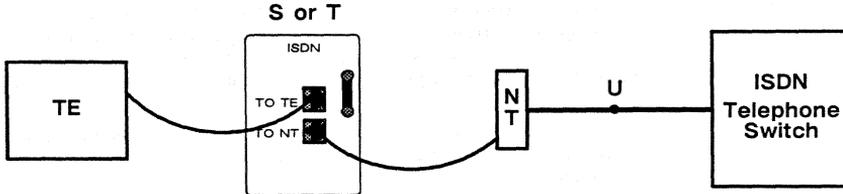

Figure 48-4 To monitor the line, connect both interfaces, **TO TE** and **TO NT**, to the line at the S or T interface.
1. *Monitor.* Figure 48-4 shows the test configuration when the INTERVIEW is monitoring at the S or T interface. Connect both interfaces, **TO TE** and **TO NT**, to the line.